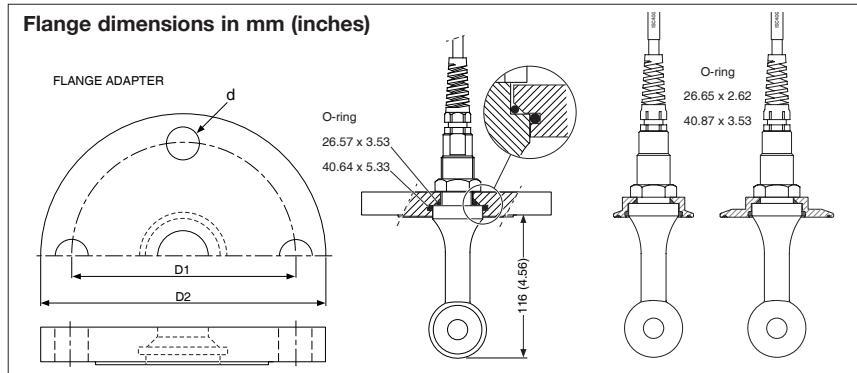

Fig 6: Option /SFA, /SFD,
3.1.1 Installation of ISC40G(S)-GG (TG) with flange adapters
The ISC40G(S)-GG (TG) sensor is supplied with a flat Viton sealing gasket for compatibility with existing installations. When using the sensor in combination with the new fittings, which are improved by the addition of O-ring seals (see figure 6), the flat Viton gasket should be discarded.